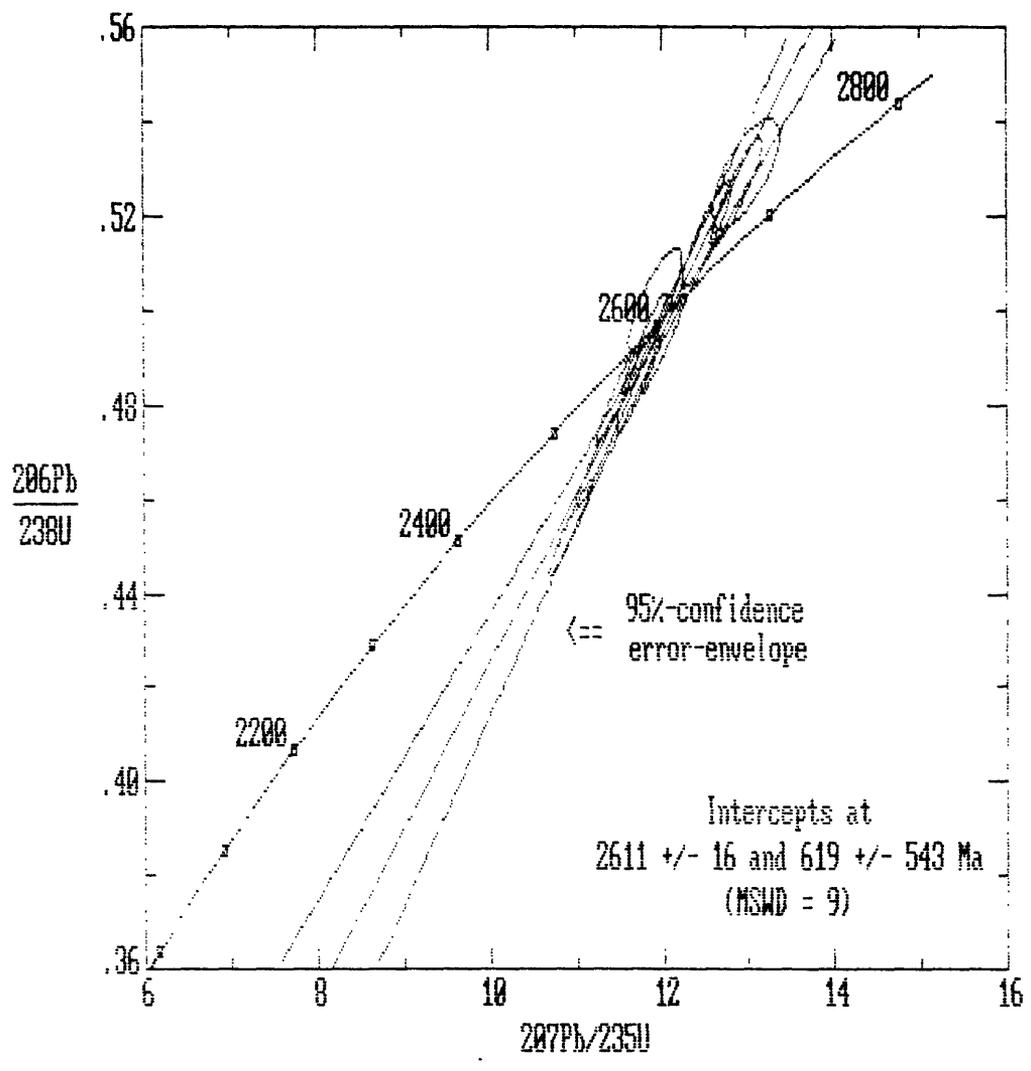

fig. 4
- Figure 4: Example of a concordia plot for data with large errors (error ellipses).